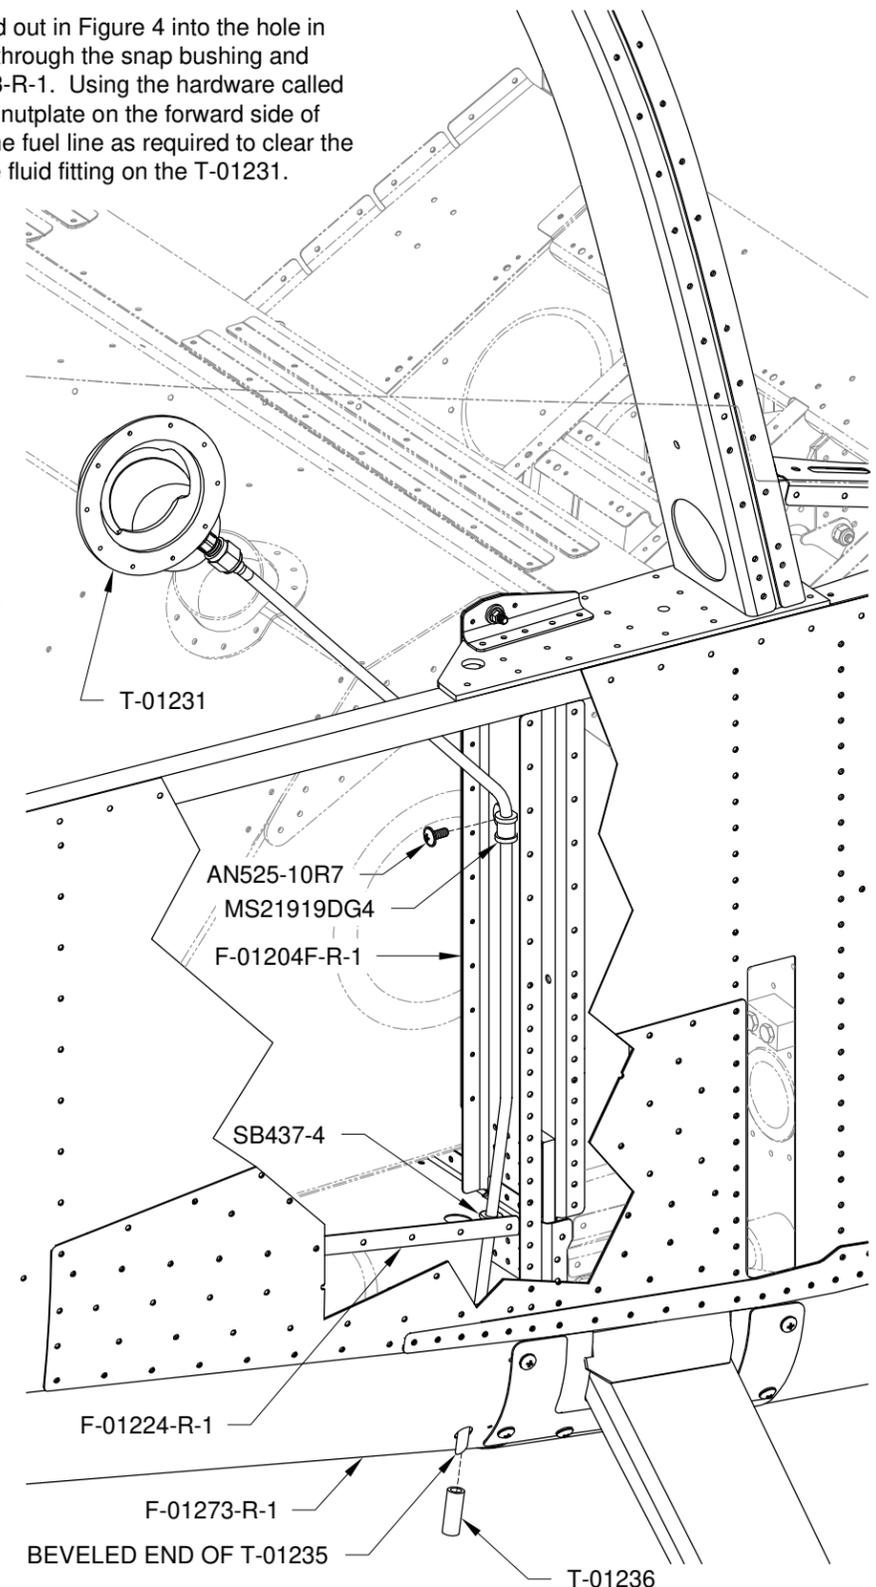

FIGURE 4: OVERFLOW FUEL LINE
Step 6: Insert the snap bushing called out in Figure 4 into the hole in the F-01224-R-1. Route the fuel line through the snap bushing and down through the hole in the F-01273-R-1. Using the hardware called out, loosely attach the fuel line to the nutplate on the forward side of the F-01204F-R-1, then hand bend the fuel line as required to clear the longeron and attach stress free to the fluid fitting on the T-01231.